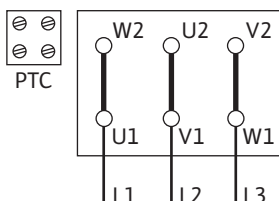

Fig. 13: Δ connection
- The mains connection is dependent on the motor power P2, mains voltage and activation type. Refer to the following table and Fig. 13, 14 and 15 for the required connection of the connecting bridges in the terminal box.